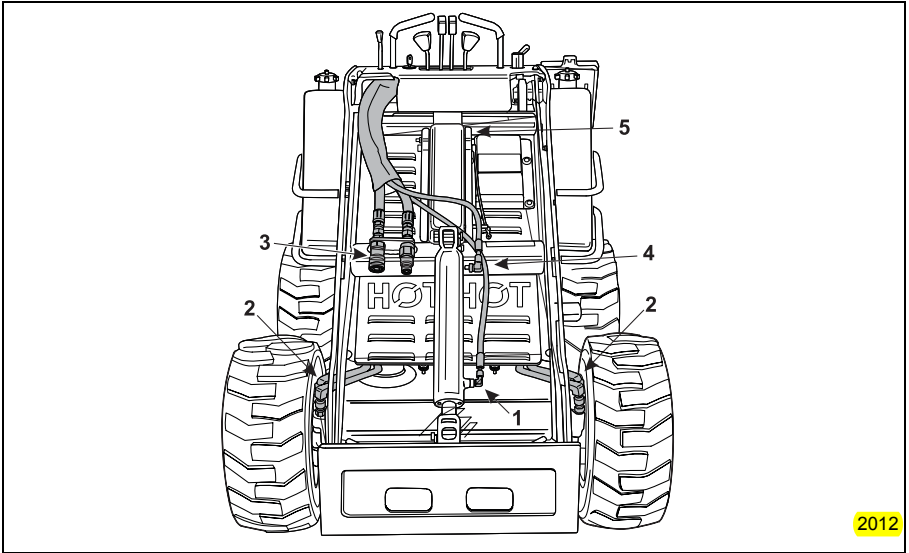

Figure 4-7 Inspect Hydraulic Lines and Fittings
- d. Follow all of the hoses, line and tubes from the control valve to their end (Items 1, 2, 4 and 5, Figure 4-7). Inspect the connections and look for signs of leaking hydraulic fluid, wear or damage. Carefully inspect the quick couples (Item 3, Figure 4-7) to make sure that they are not damaged or leaking.